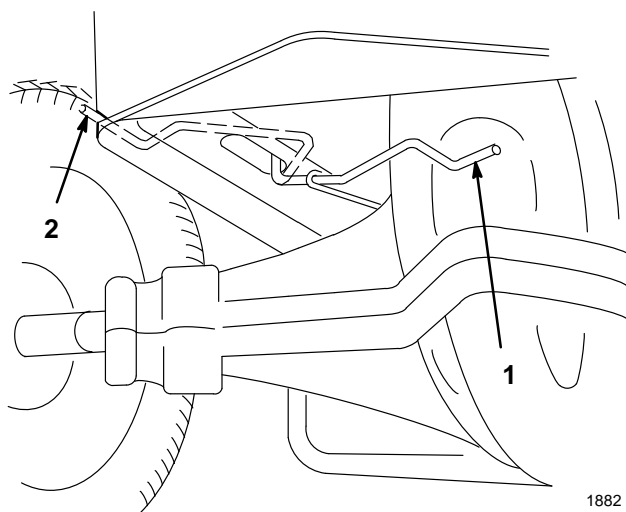

Figure 6
2. Place the drive control in the “Push” position (Fig. 6).
3. Run engine at a low idle and move traction control pedal forward for five (5) seconds then reverse for five (5) seconds. Repeat three (3) times.
4. Place the drive control in the “Operate” position (Fig. 6). Drive the tractor forward then reverse approximately five (5) feet. Repeat three (3) times.